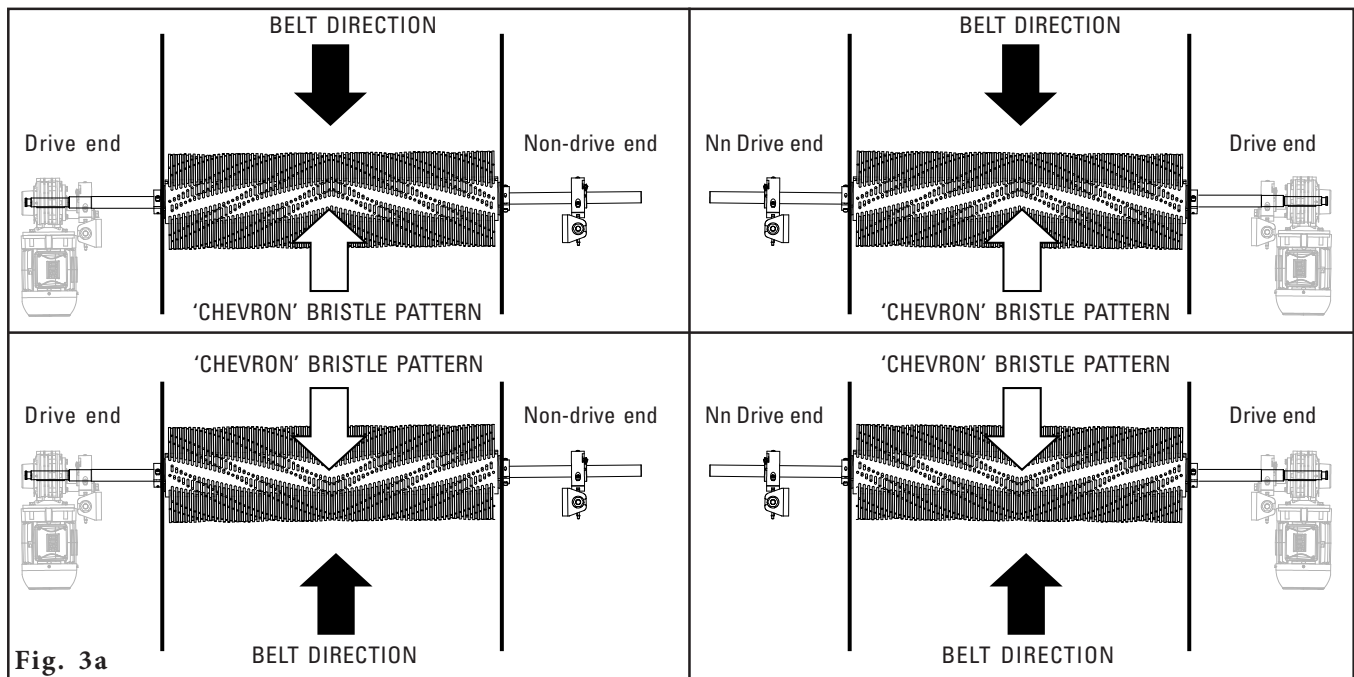
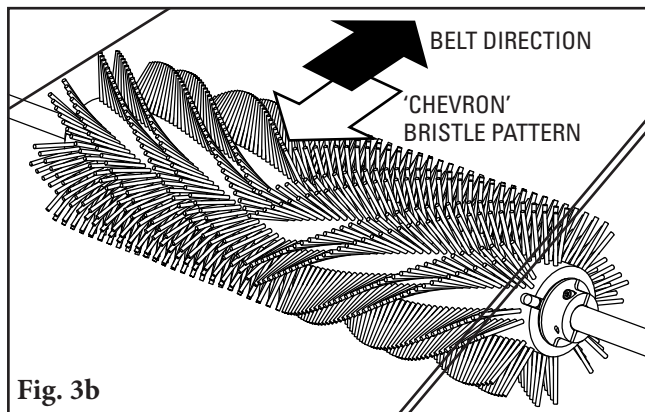
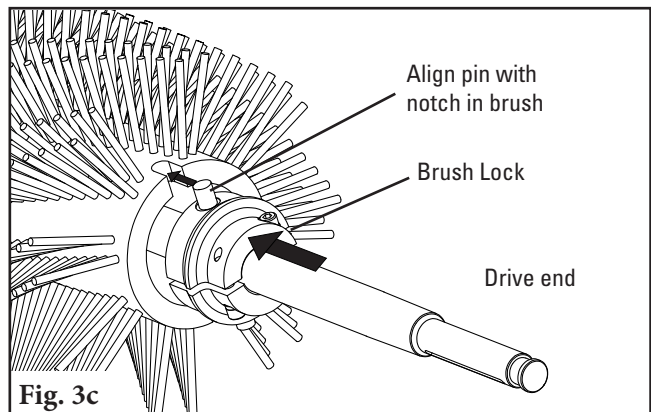

Fig. 3a
Fig. 3b
Fig. 3c
3. **Assemble brush to shaft.** Determine which side of the conveyor the motor will go on. The drive end of the shaft must be located on this side (drive end detail shown in Fig. 3c). Choose appropriate motor/brush configuration from the diagrams below (Fig. 3a). Slide brush onto shaft per selected configuration. **NOTE: 'Chevron' bristle pattern should be pointing against the direction of belt travel** (Fig. 3b). Then slide brush locks onto both ends of the shaft (Fig 3c).